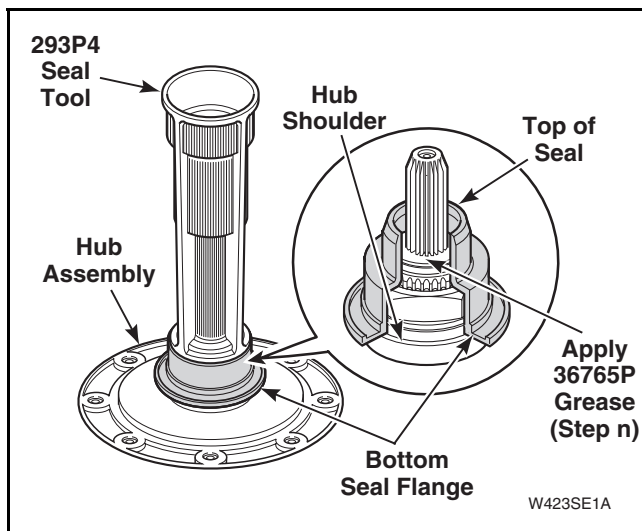

Figure 27
- Apply remainder of supplied grease, No. 36765P, to exposed surface of washer between transmission output shaft and seal. Refer to *Figure 27*.
- Turn the No. 293P4 Seal Tool upside-down and place the small end over transmission output shaft and onto the seal. Refer to *Figure 27*.
- Push down on tool with a quick motion until it bottoms out and the top of seal is fully seated. Refer to *Figure 27*.